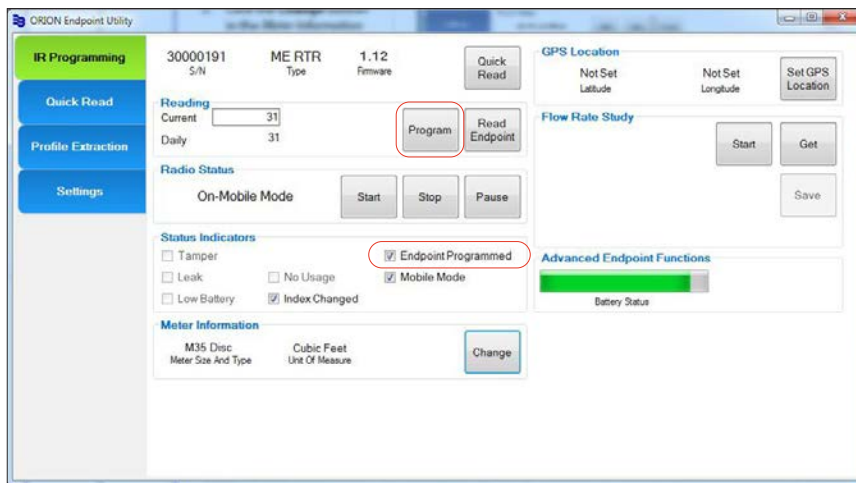

Figure 33: Meter Type, Size, Unit of Measure programmed
*Result: New Meter Information is displayed on the IR Programming screen as shown (Figure 33). The Status Indicators are also updated to show **Endpoint Programmed**.*